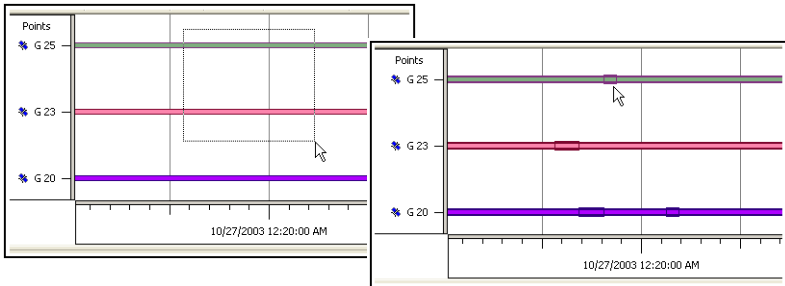

Figure 6-4. Selecting Epochs
- Either drag a square around an epoch or click a satellite's epoch (Figure 6-4) to select the desired epoch(s) and time interval(s).